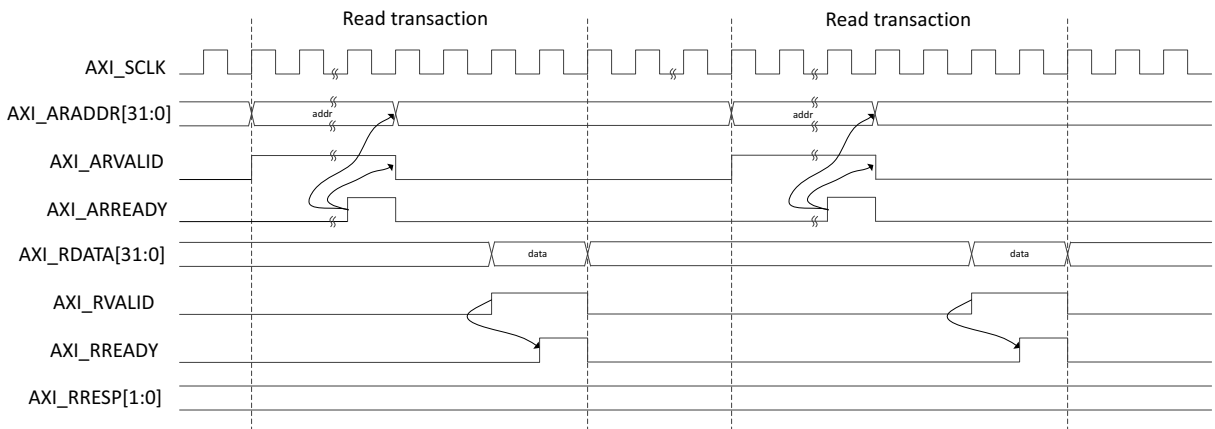

Figure 5-16: AXI4-Lite User Side Read Transaction
- Valid Read transactions (Figure 5-16)